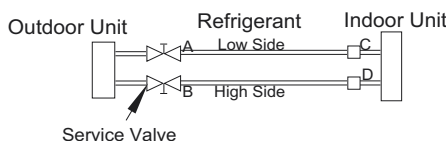

Fig. 14 – Service Valve
1. Completely tighten flare nuts A, B, C, D, (for all fan coils). Connect gage charge hose to one circuit or all circuits (if using a multiple connection manifold) at the low side service valve charge port(s). (See Fig. 14.)